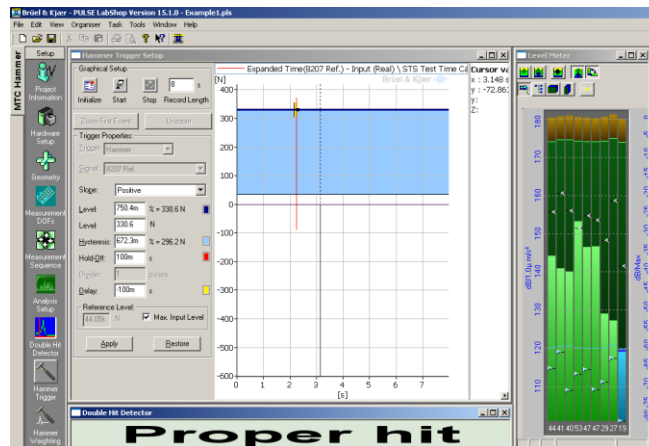

Figure 7: Drag the blue box to be inside of the excitation peak.
- After setting up some accelerometer(s) on the structure, click “initialize” then “start”, then excite the structure with the hammer. Then move the blue bar so that the top is just below the top of the hammer peak and the bottom is above the zero line. Hit “Apply”. (Figure 7).